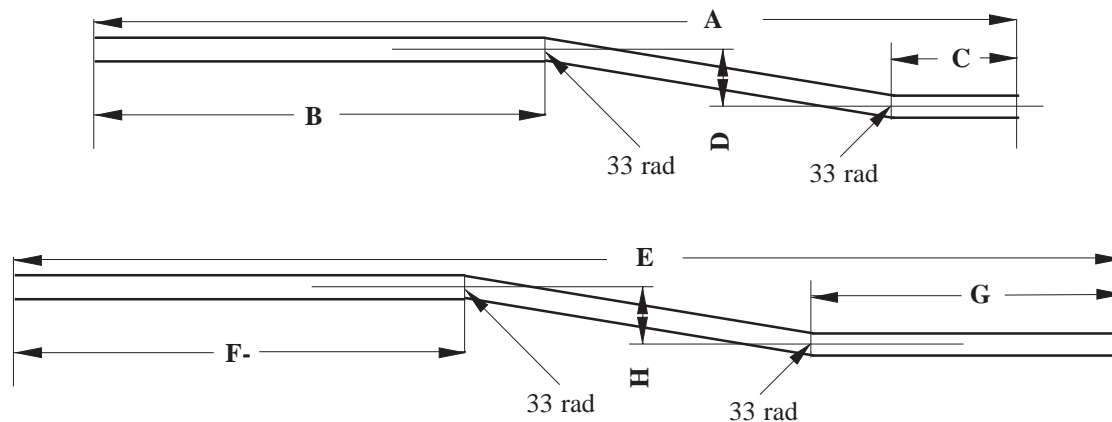

Fig. 2b
- Referring to Fig. 2b, preform suitable lengths of copper pipes as shown to fabricate the flow and return pipes.